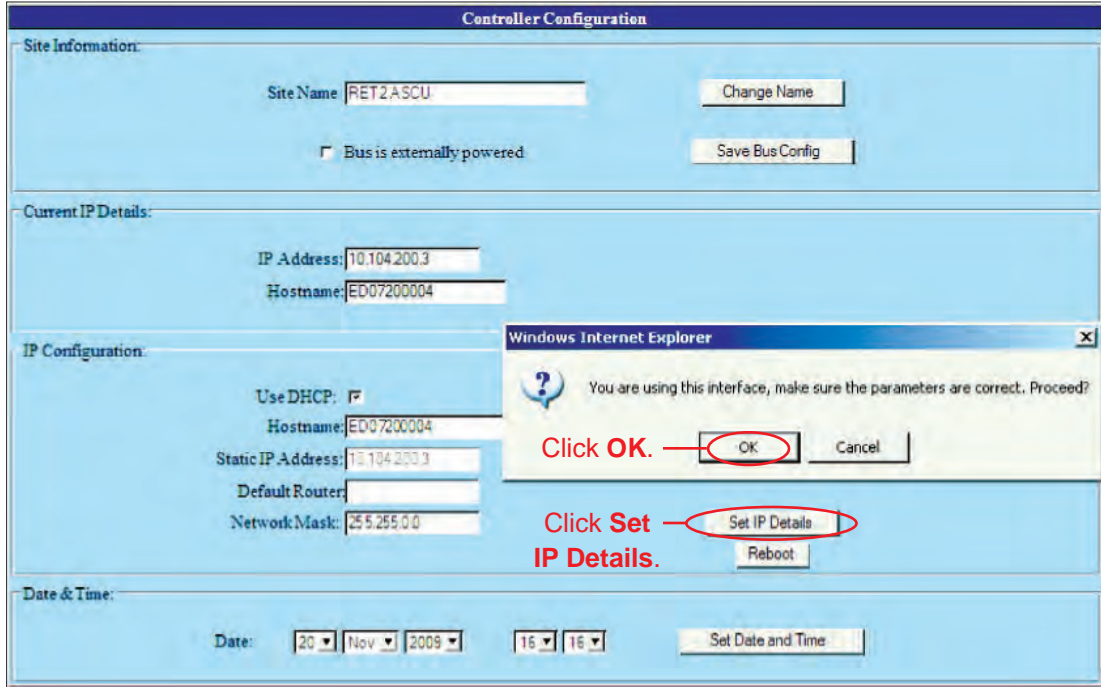

Figure 7-5. Choose Set IP Details to Establish DHCP Settings.
- If planning to use DHCP on your ATC300-1000/2000 controller, it ships configured in this mode, so it is ready for your network without additional configuration. Network access is by its hostname, which is initially its serial number. Figure 7-5 (page 7-5) shows setting up a controller for DHCP.
4. Click on **Set IP Details**. Answer **OK** when the **Proceed** dialog appears (Figure 7-5).
2. Click on **Set IP Details**. Answer **OK** when the **Proceed** dialog appears (Figure 7-5).